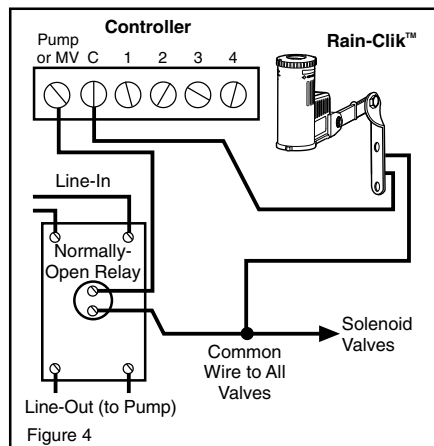

Figure 4
- B. 24 Volt Solenoid Valves with Booster Pump (See Figure 4).